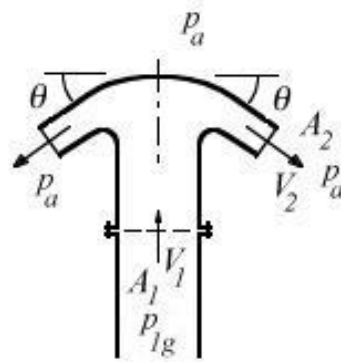

Figure P4.55
- 4.55** A spray head steadily discharges a fluid of constant density ρ symmetrically over two side branches, as shown in Figure P4.55. You can neglect gravity, and the fluid viscosity.